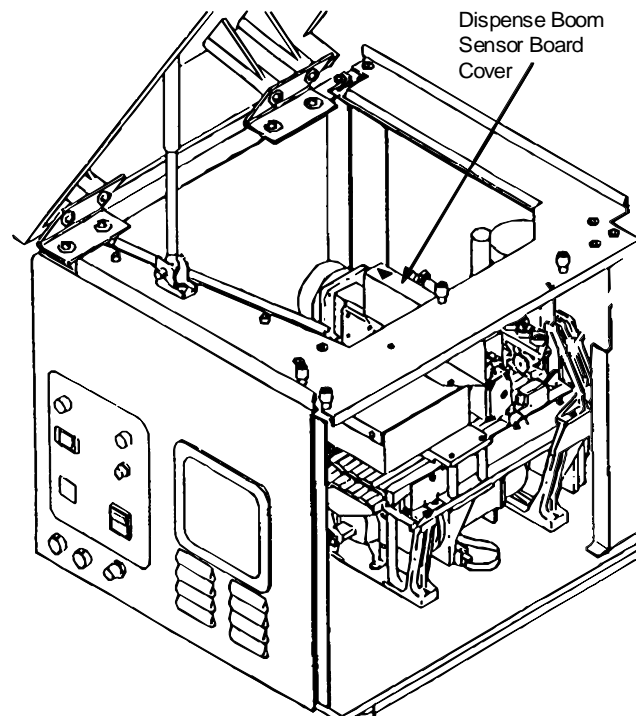

Figure 12: Left Side View
- e) Referencing **Figure 12**, locate the Dispense Boom Sensor Board cover assembly.
- f) Place the second Triangle Label onto the Dispense Boom Sensor Board cover at the location designated in **Figure 12**.